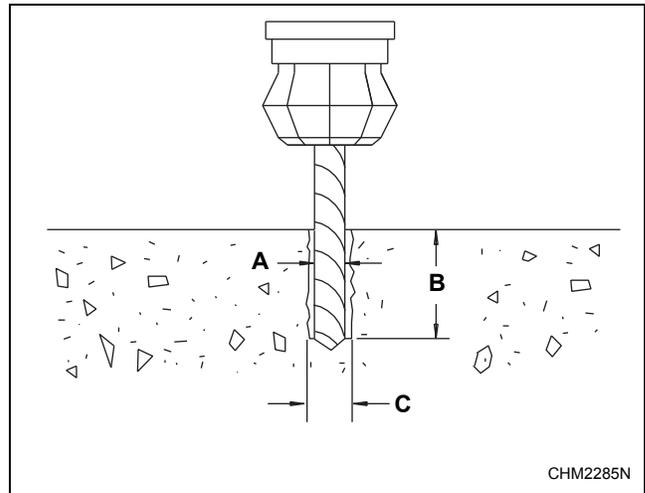

Figure 10
4. Refer to *Figure 10* and *Table 4* to set the drill depth gauge.
3. Refer to *Figure 10* and *Table 4* to set the drill depth gauge.